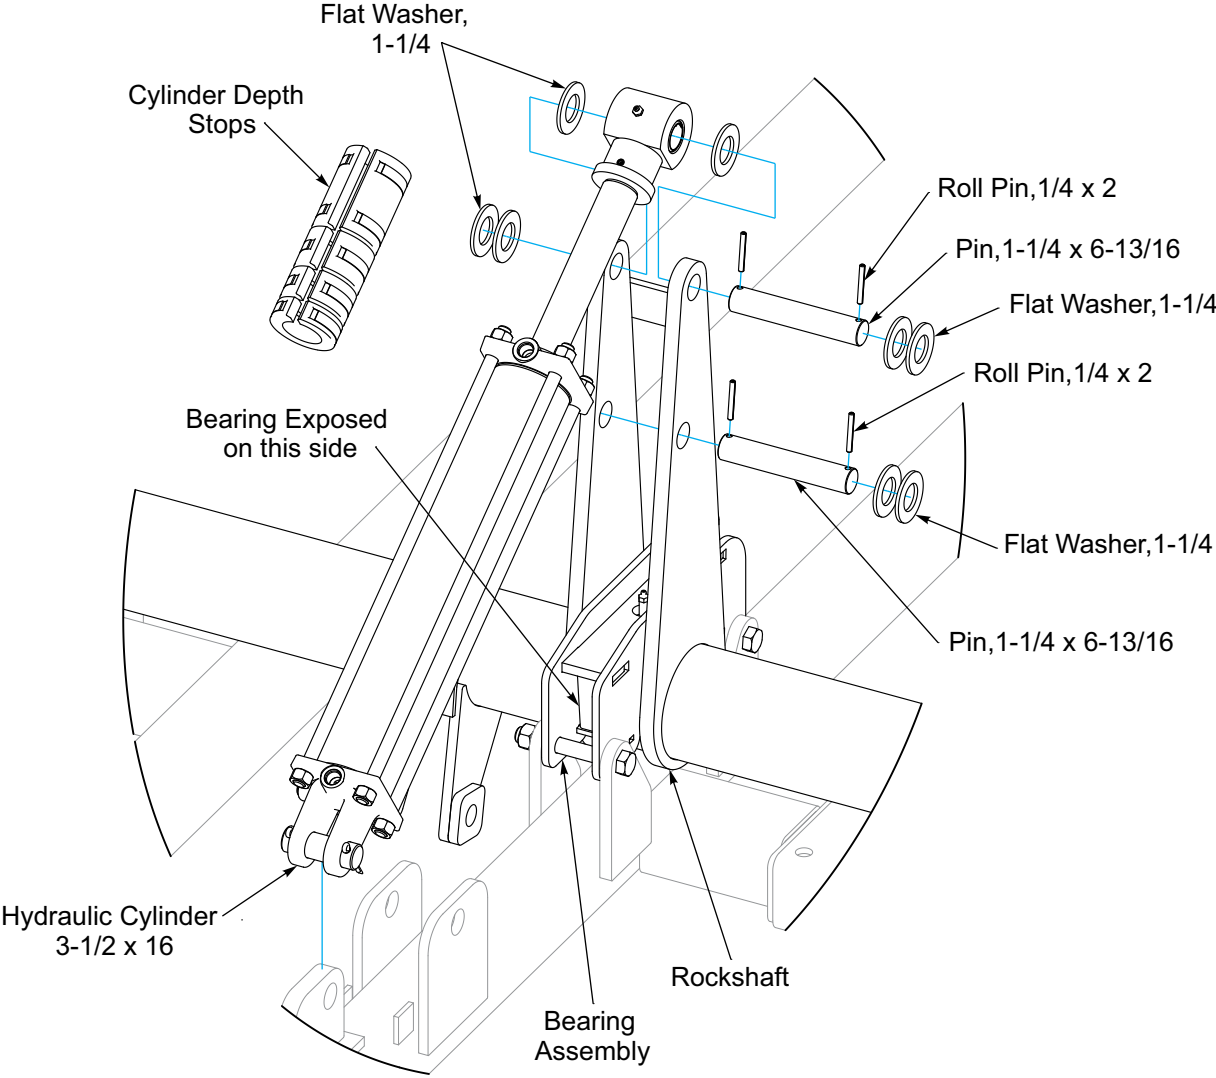

Figure 2-9: Rockshaft Cylinder
1. With 3-1/2 x 16 Hydraulic Cylinder ports up, assemble the base end to the Cylinder Anchor on the front of the frame with the vendor supplied hardware. **See Figure 2-9.**